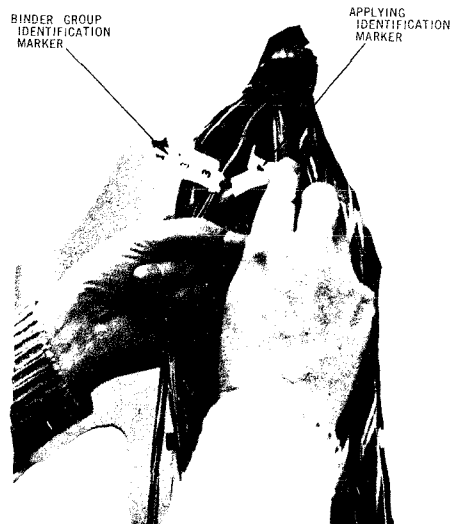

Fig. 5
- 5.04** Before removing the unit binder, wrap each binder group of the IN and OUT cable or cables with the cable unit marker using the number that corresponds with the group, (e.g. Blue White = No. 1) unless a change is required to correspond to the Continuous PIC Sheath Count. Place the markers near the butt of the cable and near the end of the cleared or wrapped cable groups. (See Fig. 5)